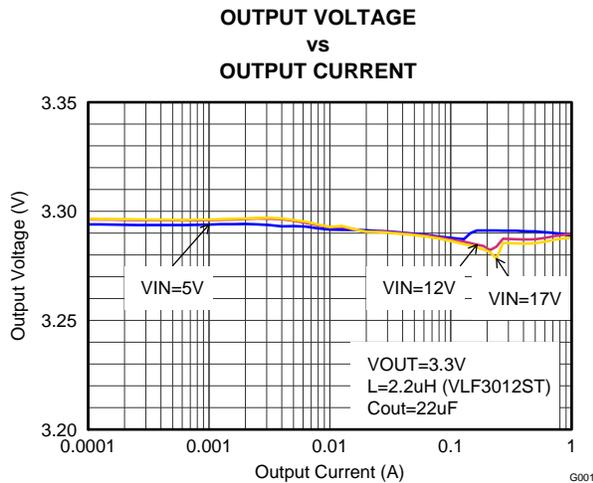
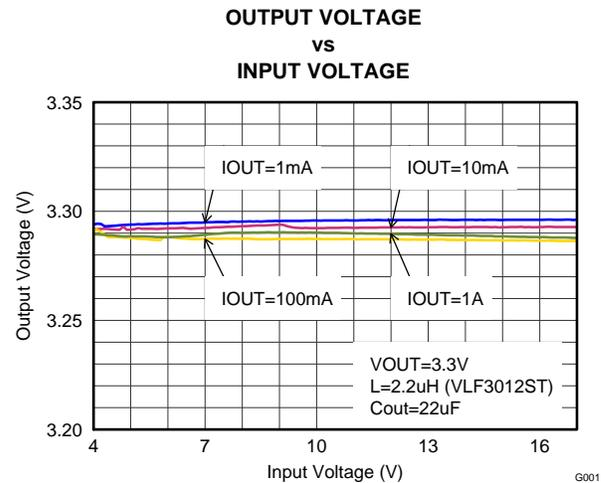

Figure 13. Output Voltage Accuracy (Load Regulation)
Figure 14. Output Voltage Accuracy (Line Regulation)
(5) This is the accuracy provided by the device itself (line and load regulation effects are not included). For fixed voltage versions, the (internal) resistive feedback divider is included.
(6) In Power Save Mode, increased voltage ripple has to be considered.
(7) Line and load regulation are depending on external component selection and layout (see Figure 13 and Figure 14).